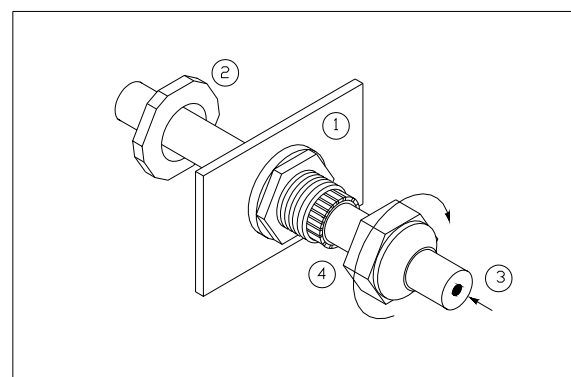

Figure 5. Interconnect Cable Clamp
- E. Route wires through the knock-outs and clamps in the following steps (see Figure 5):
- Insert the nipple (1) of the clamp in a hole in the junction box using lock nut (2).
- Push the interconnect cable (3) through (1), (2) and the cap (4).
- Clamp the cable by tightening the cap (4).